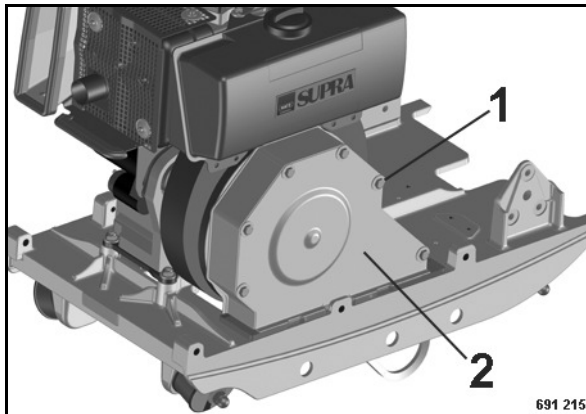
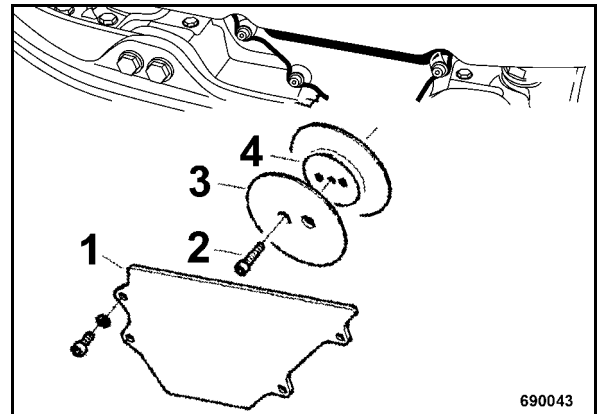

Fig. 71
Fig. 73
- Unscrew fastening screws (1) (Fig. 71) for the cover and take off cover (2).
- Disassemble the safety cover (1) (Fig. 73).
- Loosen the screws (2) and take off the V-belt pulley (3).
- Assemble the cover (2) (Fig. 71).